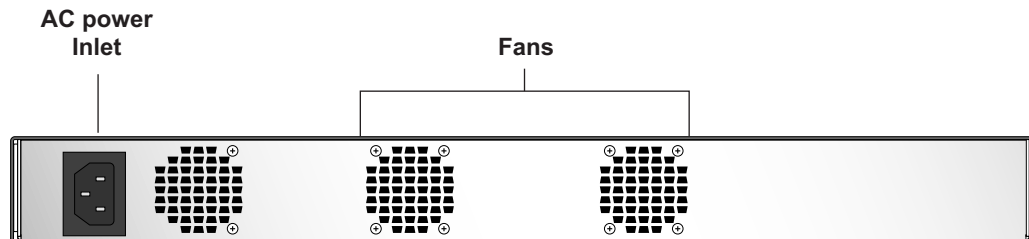

Figure 2. Back Panel
Figure 2 shows the back panel of the PA-500 and Table 2 describes the back panel features.
1. Attach a power cable to the device (Figure 2).